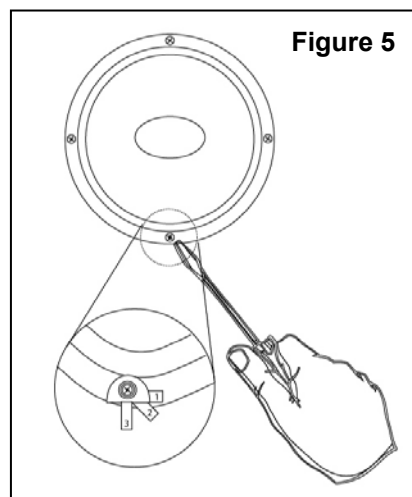

Figure 5
3. Rotate the speaker driver towards the listening area and use one hand to push the speaker into the cut out (again, pay careful attention **not** to push on the woofer's cone, this can cause permanent contortion of the voice coil, thus producing mechanical rubbing sound or speaker failure) and the other to turn the screws that engage the installation tabs (see **Figure 5**). Tighten the tabs in a cross or X-pattern until "snug". Be careful not to over tighten the tabs or damage could result. The speaker should appear flush to the surface.